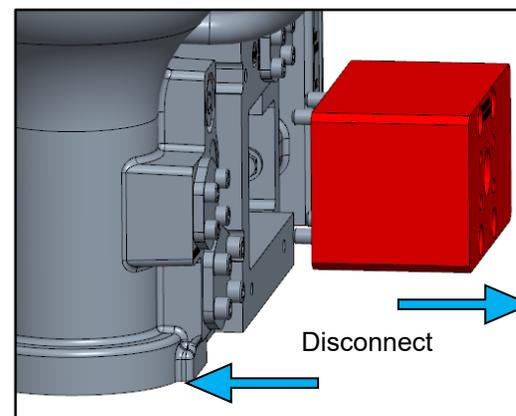

Figure 4-4. VariStroke Shuttle Valve Removal
5. Carefully pull-out the shuttle valve (Figure 4-4).